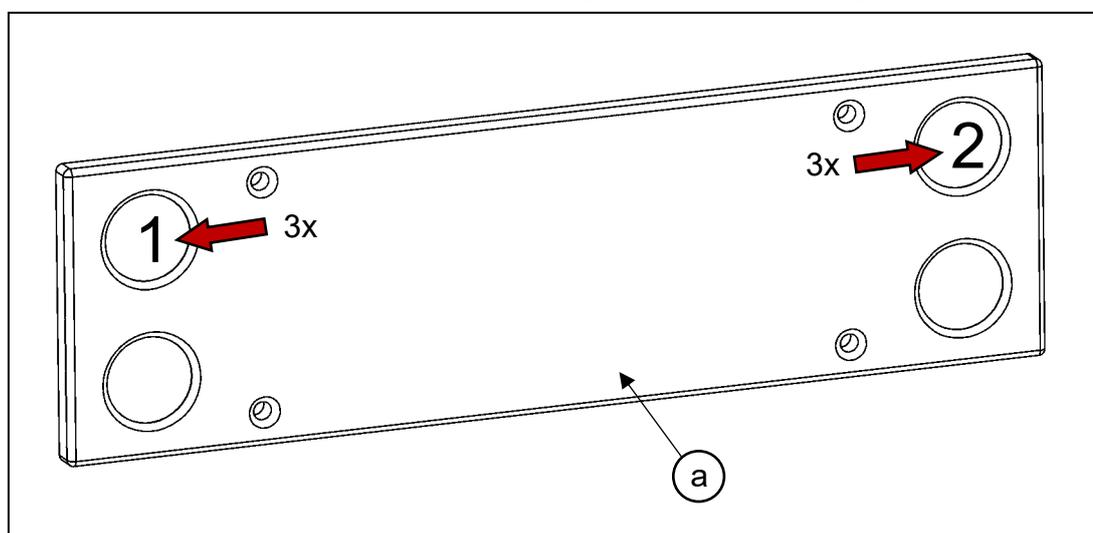

Figure 86
- On the control panel (a), press button 2 (top right) 3 times (see Fig. 86).